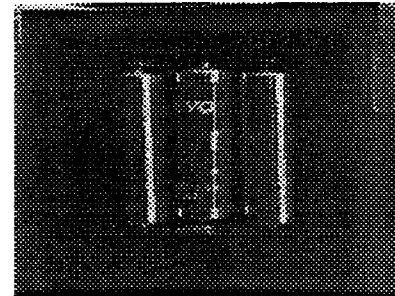

Figure 4.1 - Battery positioning
4.3.2 To replace the batteries, turn the unit over on a soft surface and remove the battery compartment cover (see Figure 4.1). A small tool, such as a screwdriver, may be necessary in unlatching the tab. Be careful not to break this tab. Replace the batteries with three high quality AA size "heavy duty" or alkaline batteries. A capacitor will keep the memory alive for about 30 seconds while changing the batteries, thus do not remove the old ones until the new ones are ready for installation. Alternatively, it is permissible to the power cable plugged in and the power on while changing the batteries, in which case memory will be retained as long as power is on. Be sure to insert the new batteries in the directions indicated by markings in the bottom of the battery compartment. Incorrect insertion won't damage anything but the memory won't receive any power from the batteries.